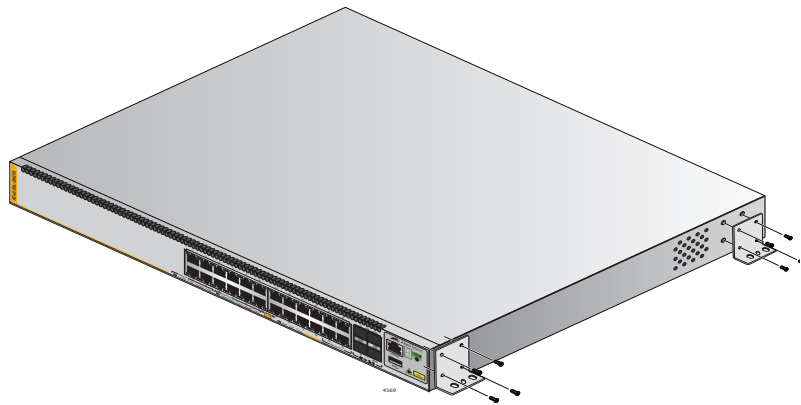
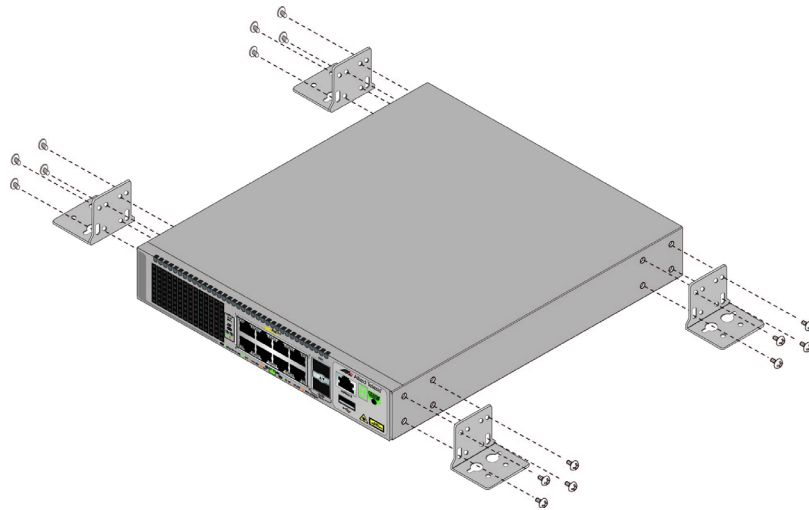

Figure 74. Installing Two Brackets on the x530L-28GPX, x530L-28GTX, x530L-52GPX, or x530L-52GTX Switch
Figure 75. Installing Four Brackets on the x530L-10GHXm
2. For the x530L-28GPX, x530L-28GTX, x530L-52GPX, or x530L-52GTX, install two wall/equipment rack brackets to the sides of the unit with the eight M4x6mm screws included with the switch. Install the brackets on the same side of the switch. Refer to Figure 74 on page 134 for the x530L-10GHXm, install four wall/equipment rack brackets to the sides of the unit with the sixteen M4x6mm screws included with the switch. Refer to Figure 75 on page 134.
2. For the x530L-28GTX, x530L-52GTX, x530L-28GPX or x530L-52GPX switch, install two wall/equipment rack brackets to the sides of the unit with the eight M4x6mm screws included with the switch. Install the brackets same side of the switch. Refer to Figure 74 on page 134. For the x530L-10GHXm switch, install four wall/equipment rack brackets to the sides of the unit with the 16 M4x6mm screws included with the switch. Refer to Figure 75 on page 134.